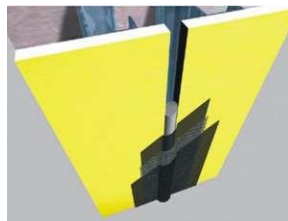

Fig. 19
- Using a brush or 3/4 in (19 mm) nap roller, apply a liberal coat of AquaFlash Liquid material to the backer rod and adjacent substrate surface to the width of the AquaFlash Mesh – Figure 19.